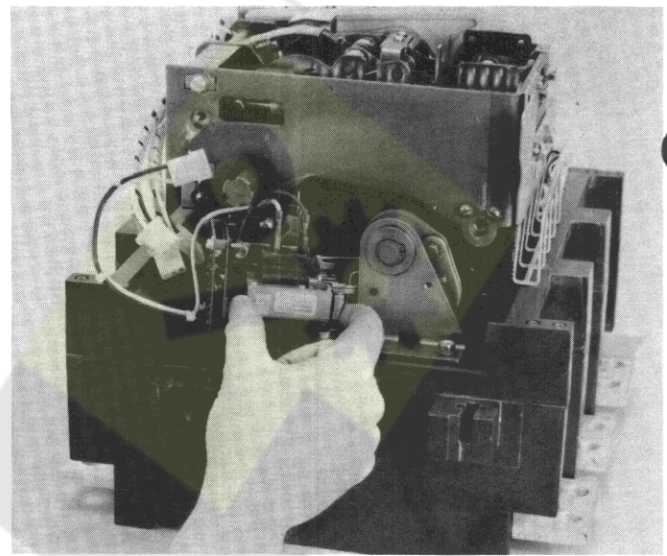

Figure 3. Installation of Remote Close under the breaker spring frame.
6. While holding the charge interlock rod of the breaker down against the midcover, move the Remote Close under the spring frame until it rests against the side frame of the breaker mechanism, as illustrated in Figure 3. Slide the Remote Close under the breaker's torque tube until the Remote Close engages the closing lever projecting through the breaker side frame.